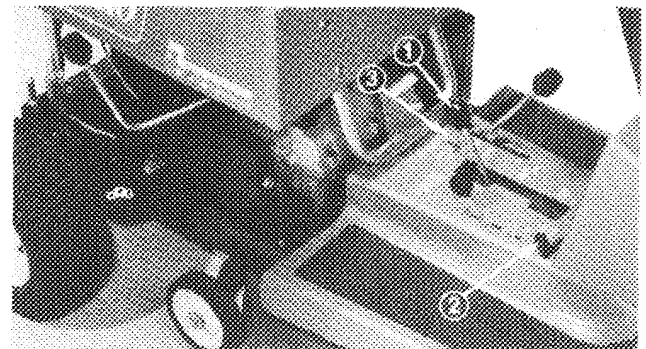

Figure 43
4. Move blade control to the left, backward, to the right and into DISENGAGE detent (Fig. 43). Sit on the seat, engage the parking brake, depress clutch pedal, shift into gear and hold clutch pedal in depressed position. Rotate ignition key to START. Engine should not start; but if it does, the interlock system is malfunctioning and must be repaired by an Authorized TORO Service Dealer. If engine does not start, proceed to step 5.